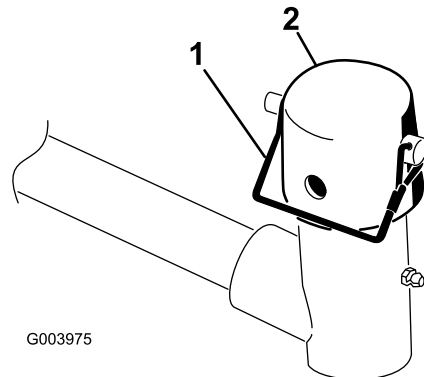

Figure 9
- Remove the snapper pin and the cap from the lift-arm pivot yoke (Figure 9).
Note: Use the slot if a steering cutting unit is desired or use the hole if the cutting unit is to be locked in position (Figure 9).